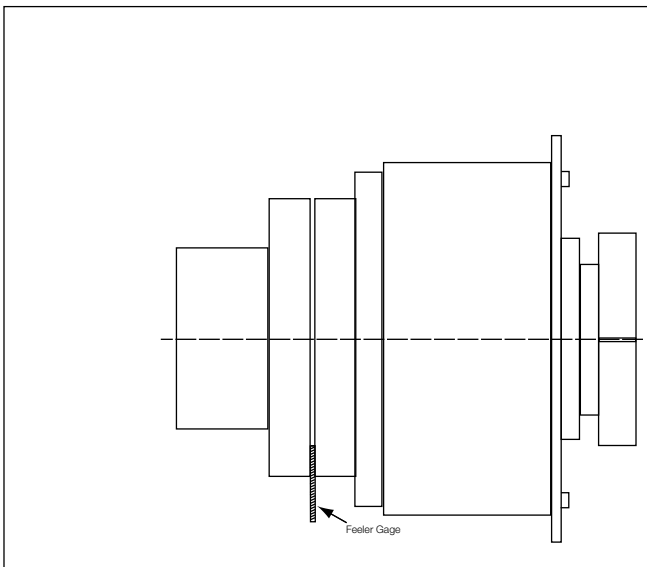

Figure 13 – Angular “R” Coupling Alignment
- a. Measure the gap around the periphery between the coupling flange and clutch **without rotating** the shafts. Refer to Figure 13.